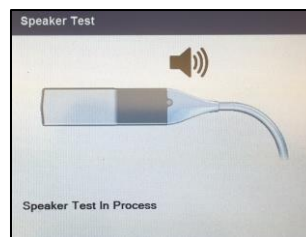

Figure 20: Transmitter Model 4100 Speaker Test dialog box
1. Select the Speaker Test button. The Speaker Test dialog box (Figure 20) will be displayed for 8 seconds while the speaker in the Transmitter emits the audible notification sequence (five half-second audible tones, separated by one second silence between tones).